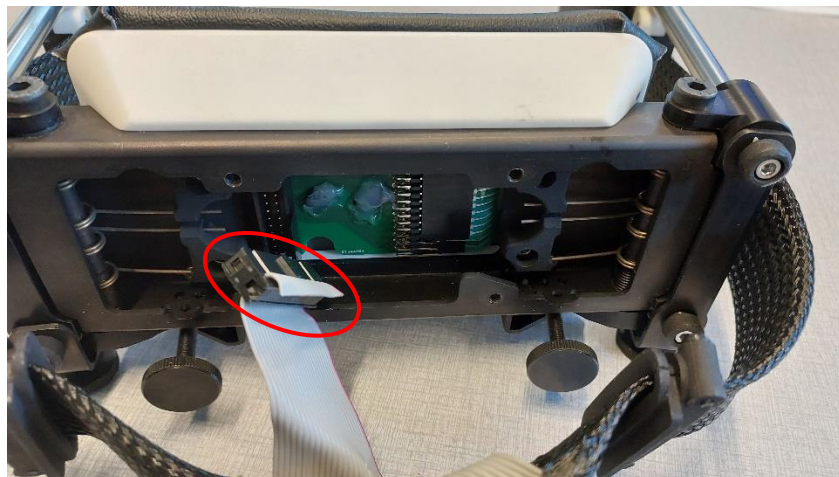

Figure 25. Unplugged connector.
6. Firmly pull and unplug the connector of the back pad inside the head array (See Figure 25).